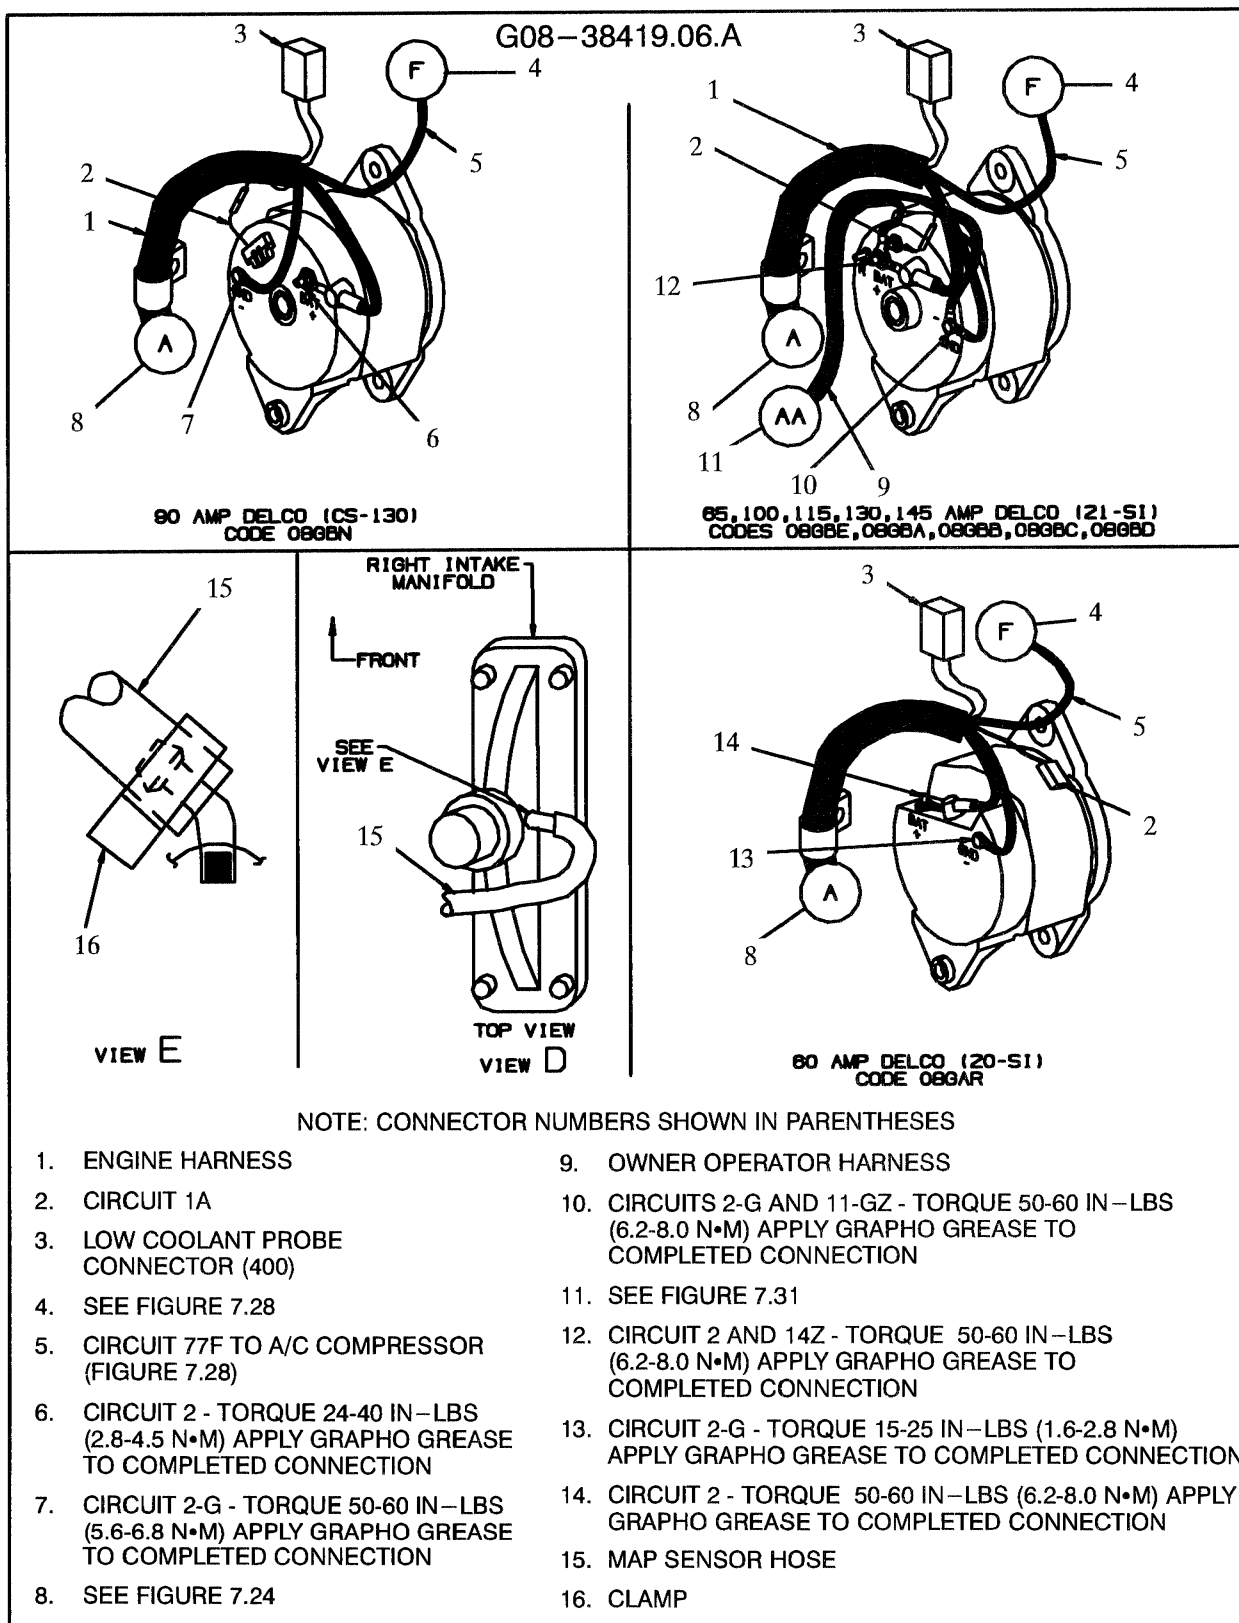

Figure 7.27 - V8 Electronic Engine Wiring (Truck & FBC)
7. MAP SENSOR HOSE CONNECTOR BARB (SEE FIGURE 7.27 VIEW D AND E)